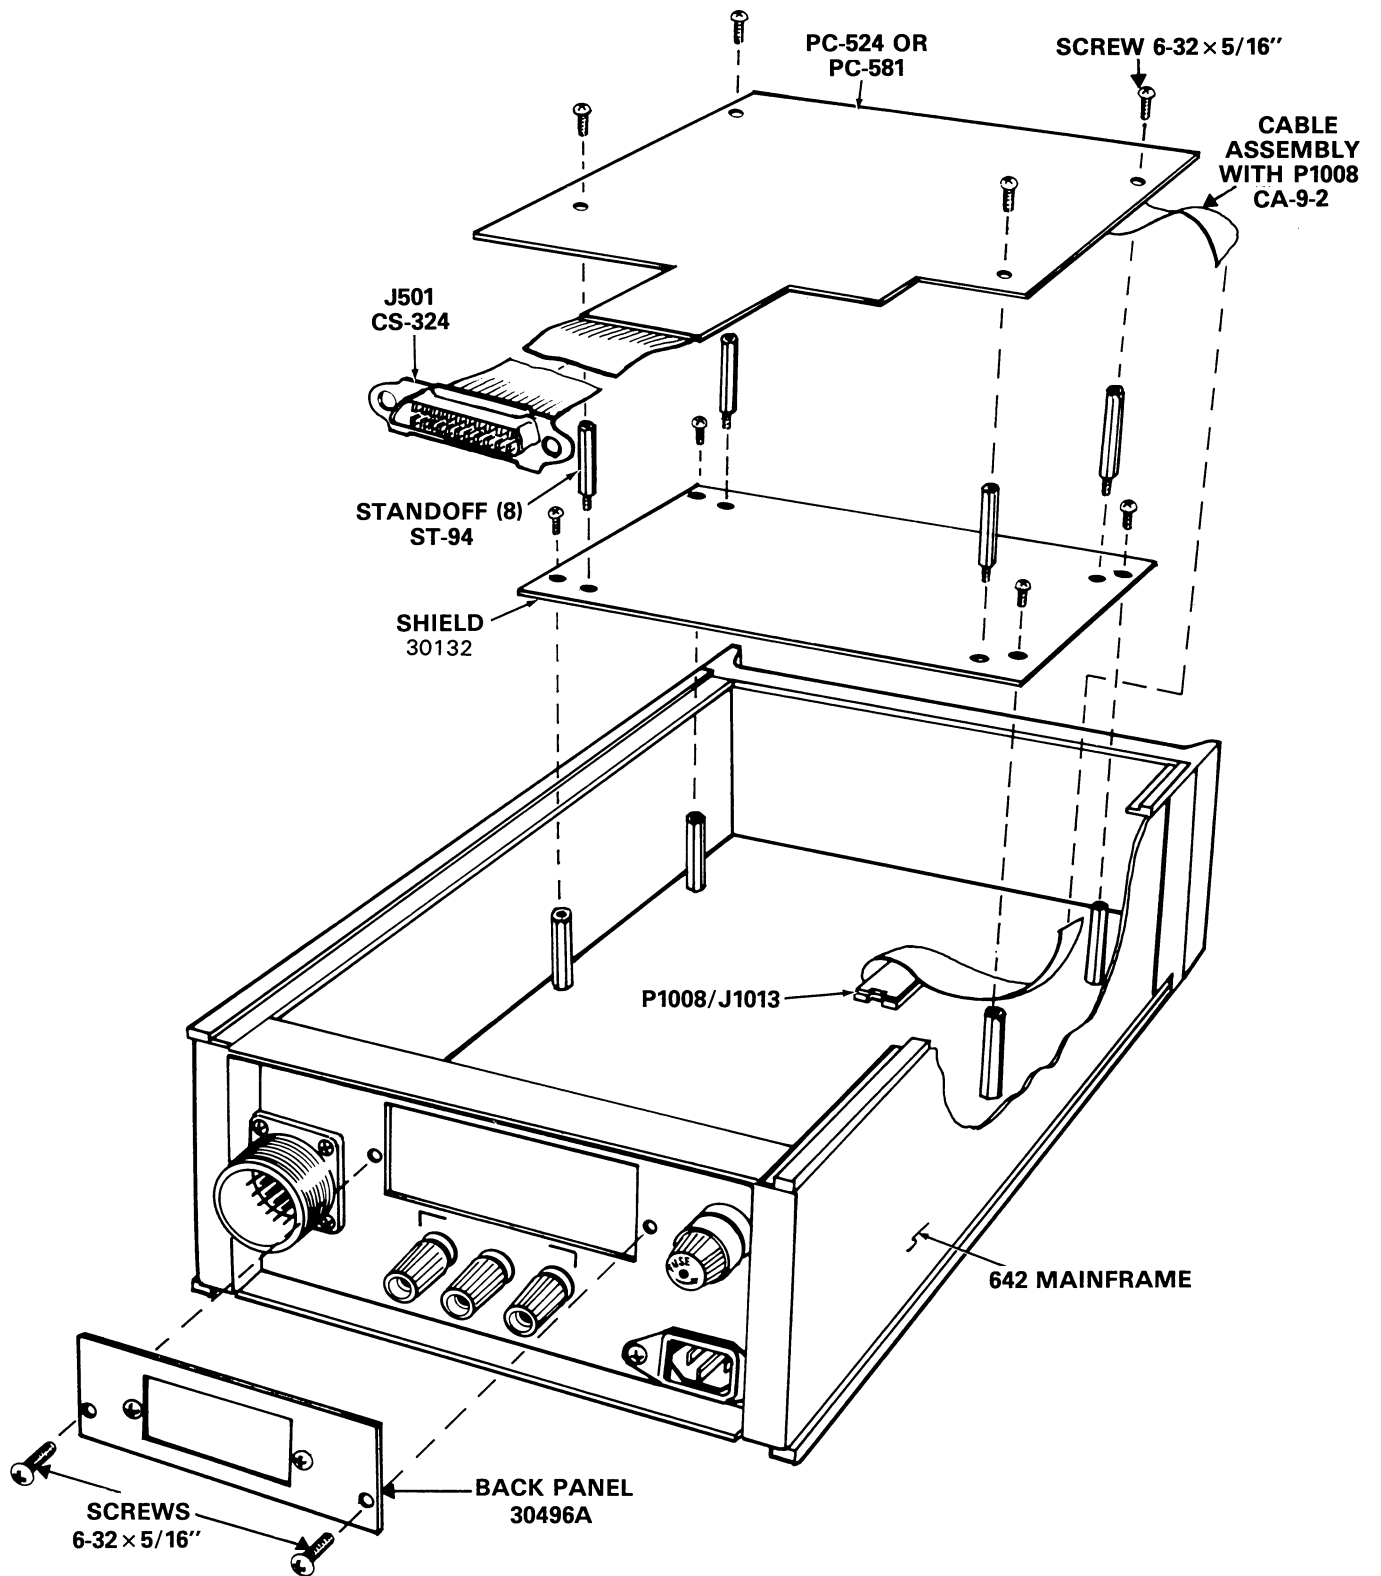

Figure 5-2. Installation Of Model 6423
The Model 6423 is designed to be installed within the Model 642 Electrometer. The interface is powered by its own line-operated power supply. The Model 6422 BCD output or Model 6428 Battery Adapter cannot be used when the Model 6423 is installed. Refer to Figure 5-2 and install the Model 6423 as follows:
4. Remove the four attaching screws and replace them with the metal spacers, as shown in Figure 5-2. These spacers may fit snugly and require the use of a wrench to install them. Be careful not to cross thread or tighten them too tightly.
5. Connect P1008 to J1013 on the mother board. Be sure to orient the ribbon cable as shown in Figure 5-2. After making the connection, place the interface board outside the Model 642 so there is no strain on the cable. The board must be out of the way during installation of the shield and spacers in the next step.